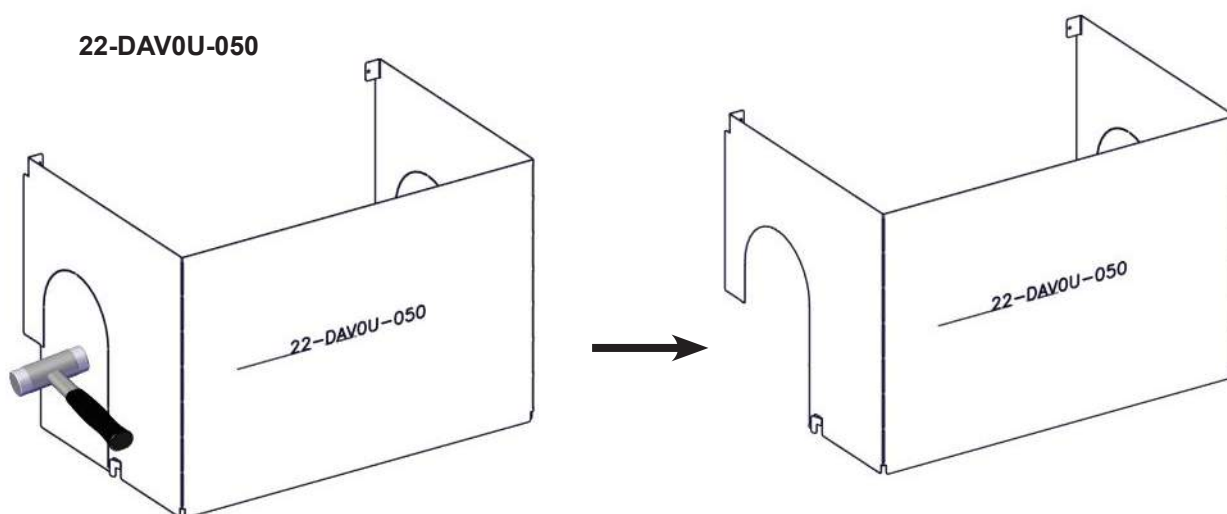

**FIG 15** Davos A Low\_N-29A
**FIG 15 a** Davos A Low\_N-29A
**FIG 15 b** Davos A Low\_N-29A